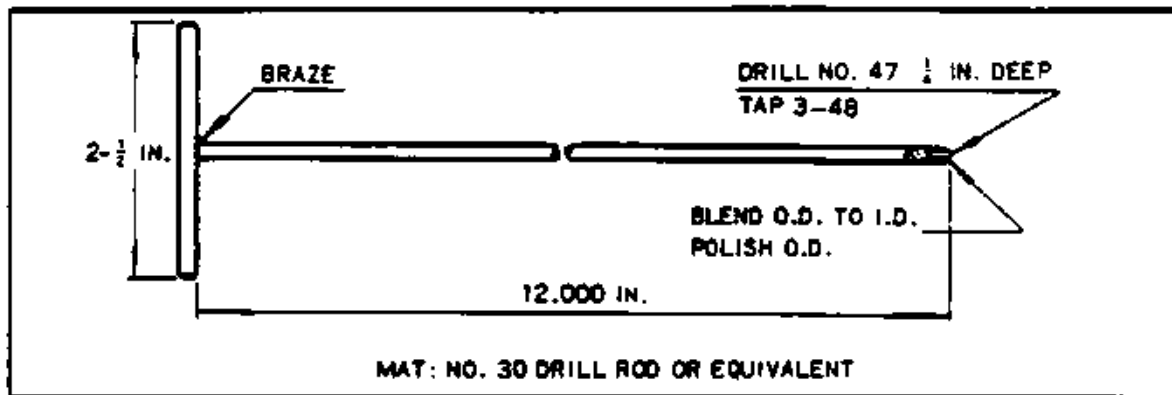

Figure 8-15. Assembly Tool
- (a) Fabricate a tool as shown in Figure 8-15 for installing the insulating sleeves over cable terminals.